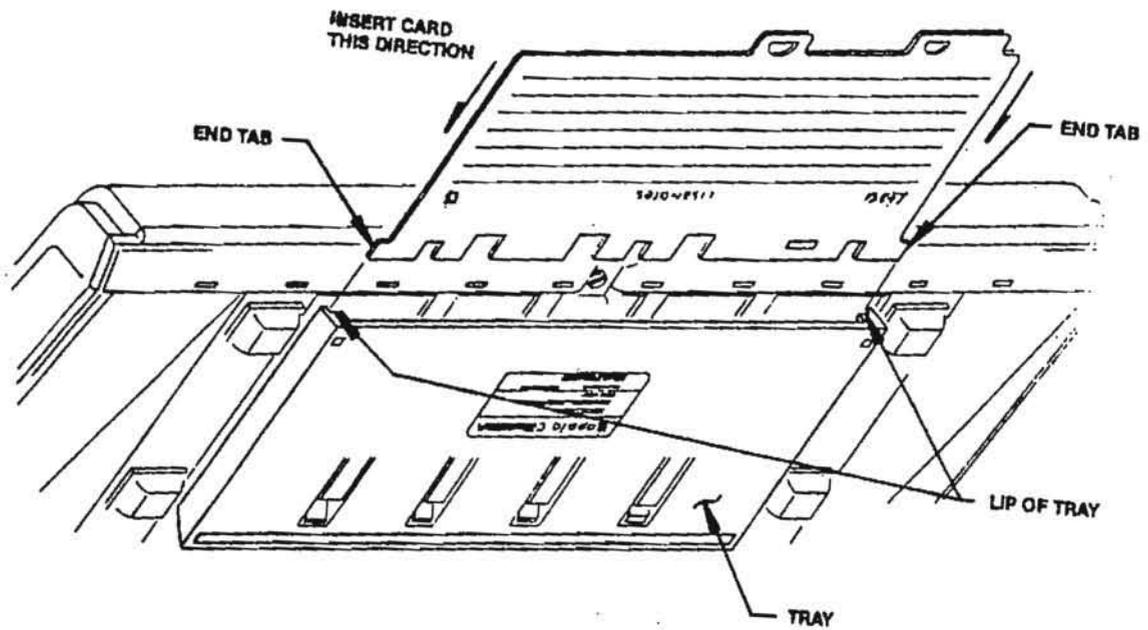

FIGURE 1
The Video State Machine ROM (6309 chip) is found at position C6 on the CPU board (see Figure 1, below). This ROM contains the serial number of the Lisa, which is used as its address for any network applications. This chip is also used in the software protection system. Whenever you change the CPU board on a Lisa, you must transfer this chip from the old board to the new board; otherwise the user's software will not run on the Lisa.
- a) Hold the card upside down as shown in Figure 1, with the blank side facing you and the end tabs next to the keyboard.
- a) Prop up the keyboard so that the bottom is facing you (see Figure 1).